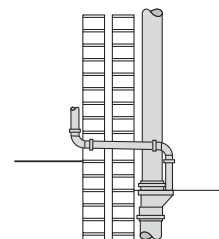

Fig.33e External ground floor connection elevation
- external ground floor connection to soil stack (Fig.33e)